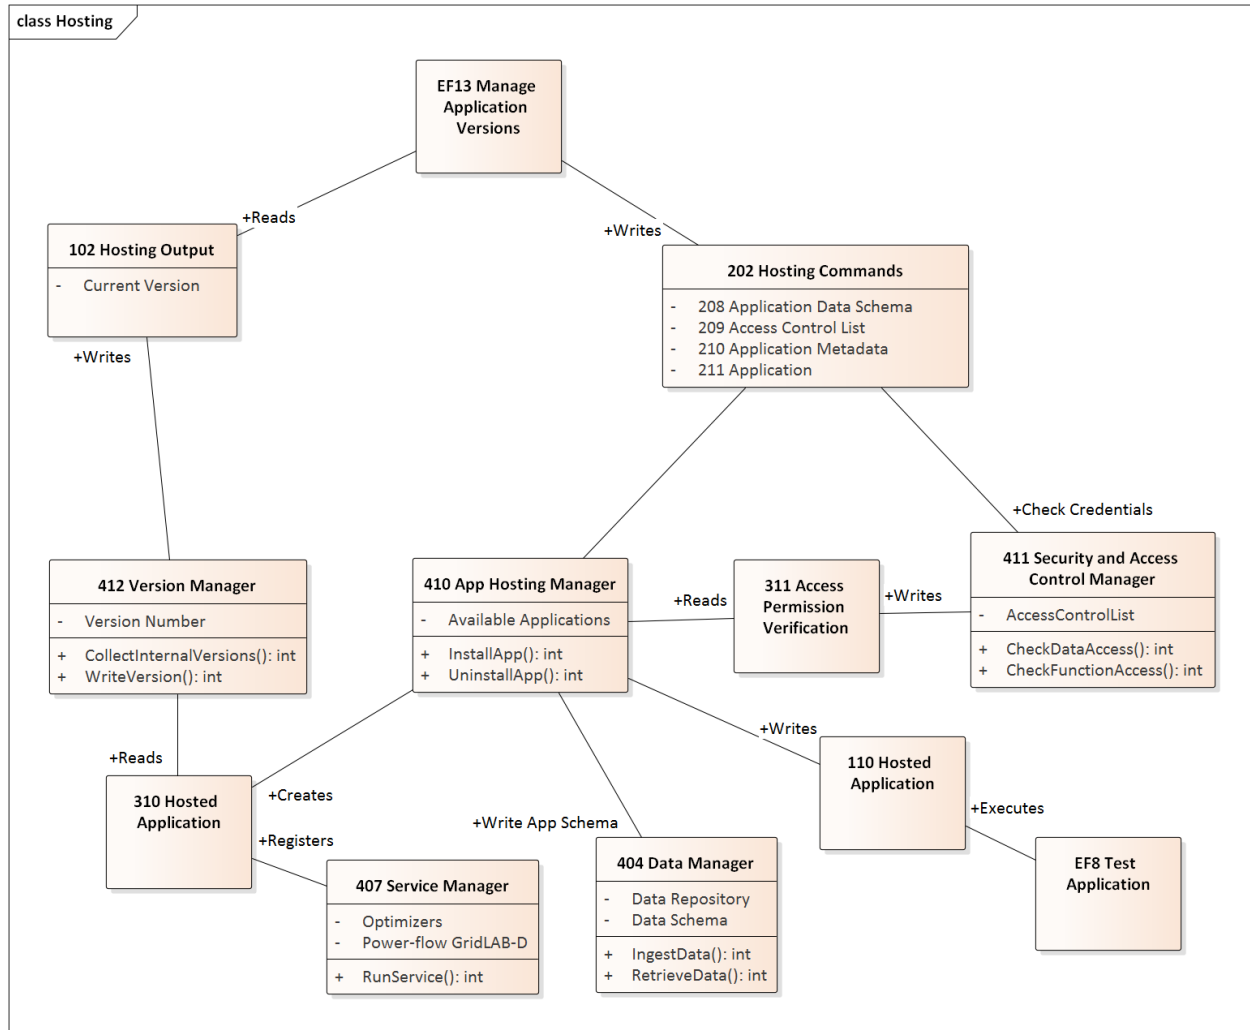

Figure 6: Hosting an application
5. Clock angles for TransformerTankEnd (i.e. move phaseAngleClock from PowerTransformerEnd to TransformerEnd (Figure 6)
10. The ToTransformerEnd association in Figure 6 is one-to-many, so CIMTool did not export it to SQL. Rather than create a join table, a ToTransformerEnd attribute was added to TransformerMeshImpedance. This supports only one-to-one association, which is justified because the one-to-many case is very rare, and GridLAB-D cannot model transformers having the one-to-many association. This restriction may be removed in future versions having a semantic or graph database.
Figure 6 shows the process of registering or updating an application to use with GridAPPS-D. The developer, in the role of EF13, must provide the application itself (211) along with the application data schema (208) and metadata (210). The data schema includes input and output parameters. The metadata includes a user-friendly name, description, calling parameters, command syntax, API functions used, etc. Using this information, 410 Application Hosting Manager will install and register the application, and its data, with 407 Service Manager and 404 Data Manager. After completing these steps, 412 Version Manager will output the current version information via the command interface; the current version includes information about which applications are installed along with the application versions.
Verification for all of the internal Platform Manager components. In Figure 6, the 410 Application Hosting Manager can pass 311 to 404, 407 and 412 as needed. Although not shown earlier, SAC is actually incorporated into all GridAPPS-D processes this way.